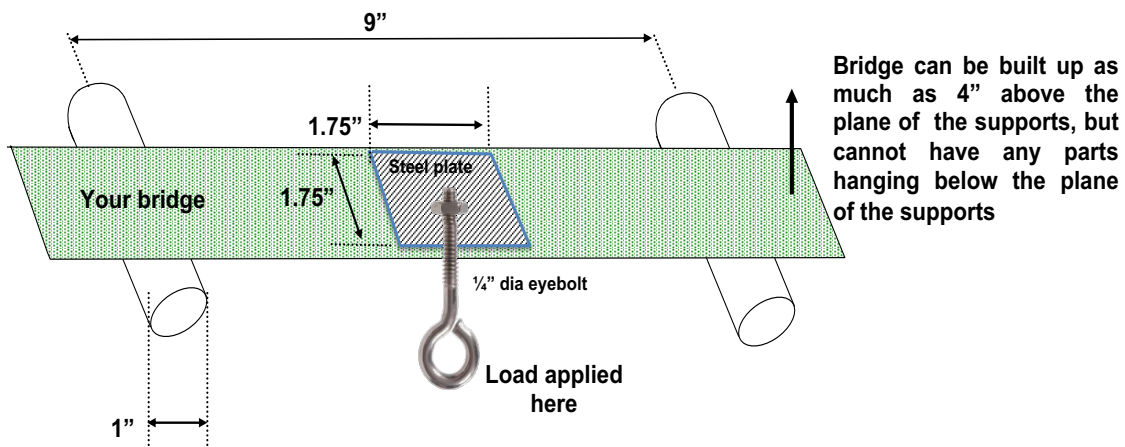

Figure 27. Diagram of bridge testing apparatus
3. The bridge must be able to span a gap of 9 inches between two steel half-rounds, each 1 inch in diameter (see Figure 27 and Figure 28). The bridge cannot have any structure below the plane of the top of the half-rounds. Loads will be applied by 1.75 inch x 1.75 inch steel plate fitted with a 1/4” diameter eyebolt and slowly pulling down on the eyebolts until the bridge fails. The application plane for this steel plate must be no more than 4 mm above “ground level” (defined as the plane passing through the tops of the two support half-rounds); in other words, your support underneath the plate must be no thicker than 4 mm as measured from the bottom of your bridge.